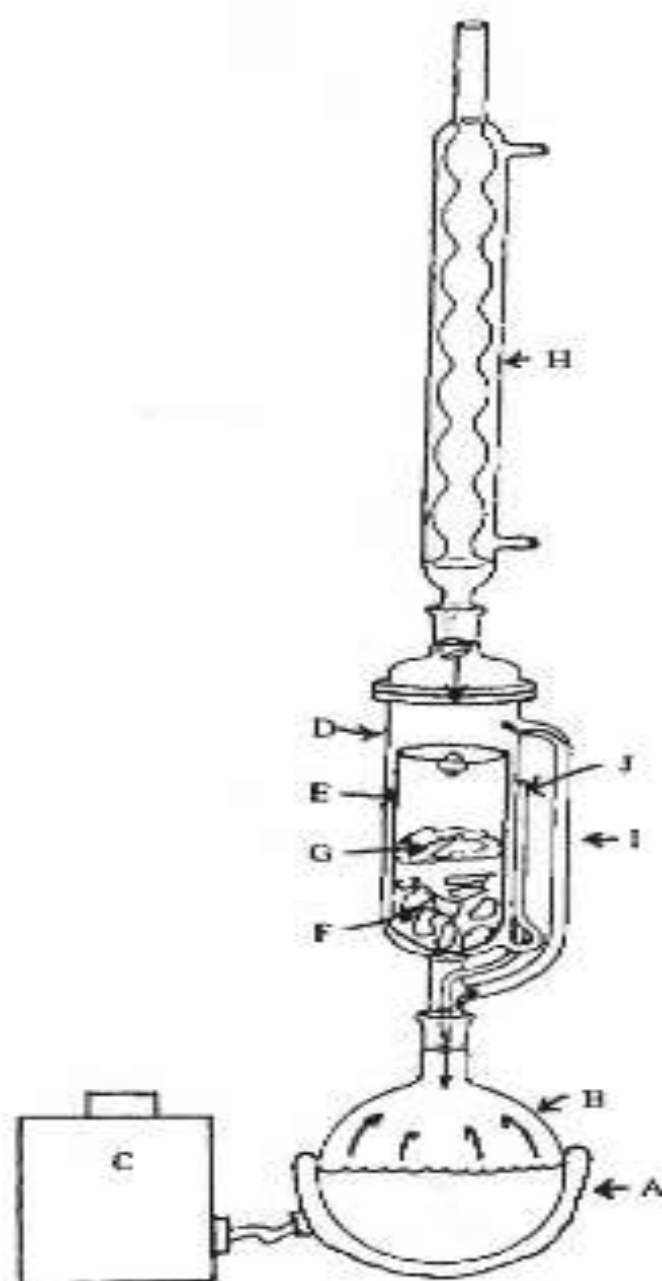

Figure 10-10. A Soxhlet extractor.
- ❑ The major difficulties with a liquid-solid extraction were that the distribution ratios of the desired products were low; the process was slow; and large amounts of solvent were required, which then had to be removed. What was desired was an apparatus that could (1) hold finely divided solid particles so a large surface area could be exposed, (2)
- ❑ continuously pass solvent over those particles, and (3) somehow use a small amount of solvent over and over.
- ❑ The most convenient laboratory-size apparatus for liquid-solid extraction is the one developed by Franz Ritter von Soxhlet (socks-let), a German agricultural chemist (1848-1926). This is shown in Figure 10-10.
- ❑ The apparatus consists of a heating device (A) and a solvent reservoir and extract flask (B), which will be a round-bottomed flask if a heating mantle is used, or a flat-bottomed Florence flask if a hot plate is used to supply the heat. The heating mantle's temperature is controlled by a variable transformer (C). An extraction chamber (D) is placed on top of B and contains a porous paper extraction thimble (E)